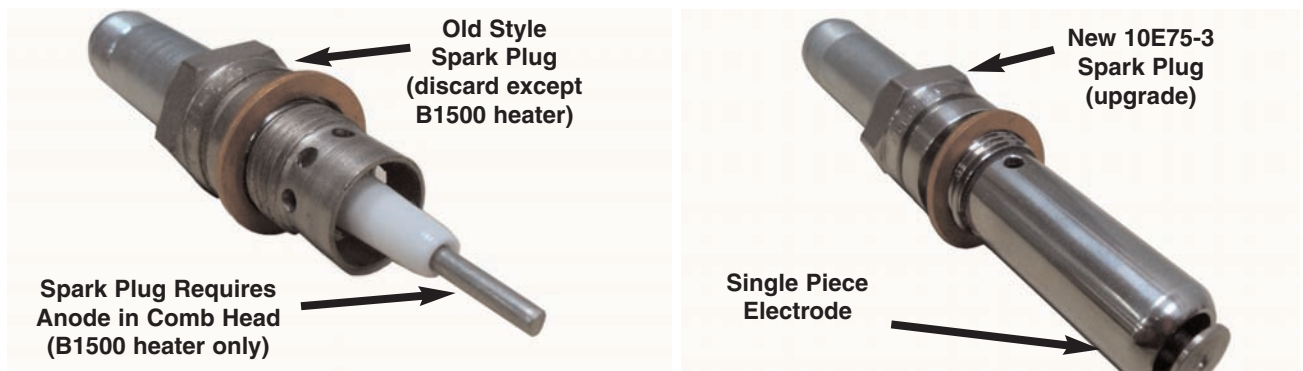

Figure 5 - Spark Plug
- (9) Carefully install the combustion head assembly into the combustion tube and install the assembly into the jacket. If an overhaul, some components may need to be replaced or overhauled along with the listed required replacement parts. Whether overhaul or repair, all rubber or flexible components and gaskets must be replaced during the upgrade.
- (10) When replacing the spark plug, (Refer to Figure 5.):